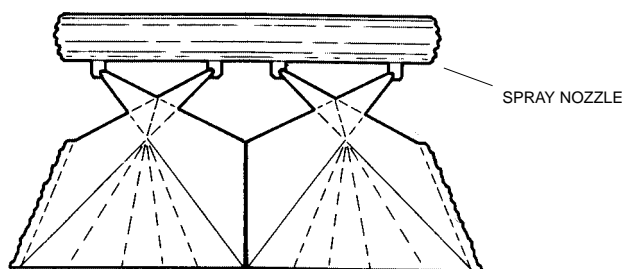

Figure 8a – Nozzle Spray Distribution (Cooling Towers)
3. Check to see if the nozzles are producing the spray pattern shown in Figure 8a for cooling tower or 8b for industrial fluid coolers and evaporative condensers.